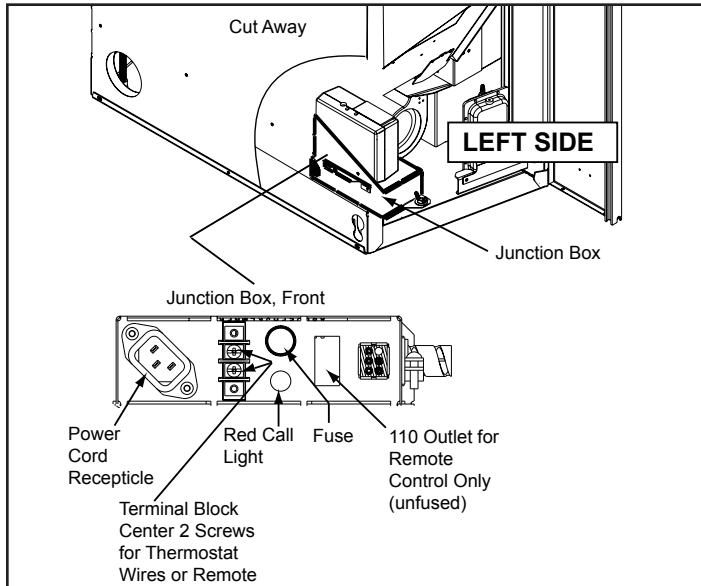

Figure 9.1
3. Locate the heat output control switch on the lower right side of the firebox in front of the right access panel. Set to the HIGH setting and then adjust the thermostat to its highest setting. The red call light will be on which is located on the front of the junction box behind the left access panel. This indicates the thermostat is calling for heat. **Figure 9.1.**